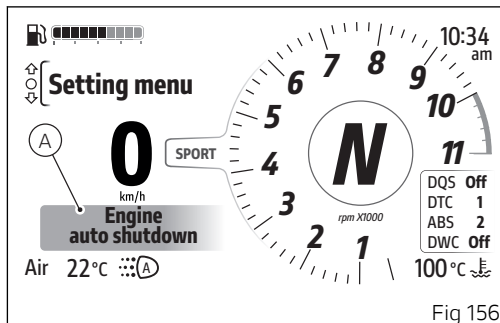

Fig 156
- “Engine auto shutdown” (A, Fig 156)